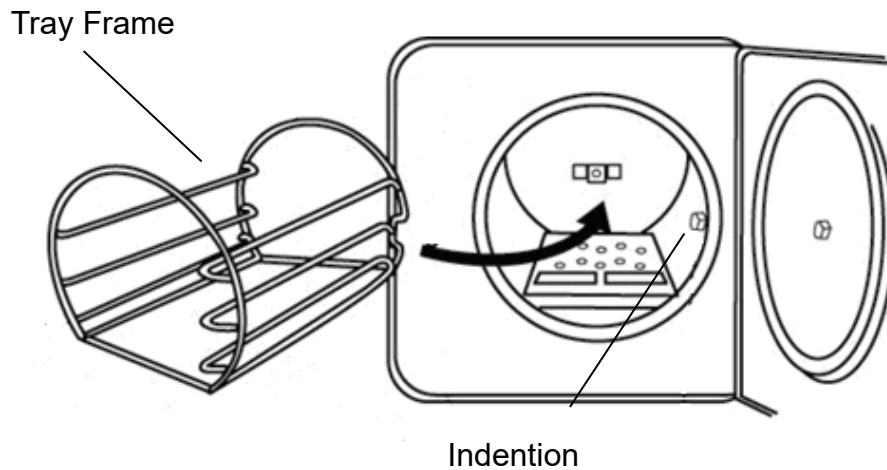

Figure 30
D. Install the tray frame as Figure 30 (optional accessory).
**⚠ Caution:** The frame should be installed as Figure 30 below. The indentation of the frame will pass the bushing in the chamber.